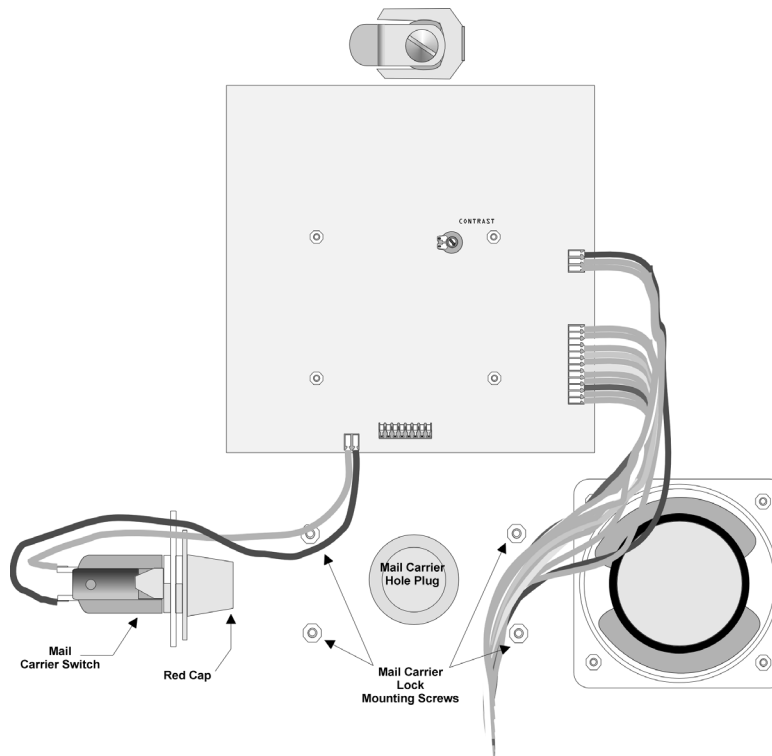

Figure 3-15 Inside view of 5083/5084 Control Panel
2. Install the lock on the 4 posts on the inside of the door. Use the the #8-32 nuts and lock washers (both supplied) to secure the mail carrier lock (see Figure 3-15).
3. Remove the red cap from the mail carrier lock button. (See Figure 3-15 for red cap location.)